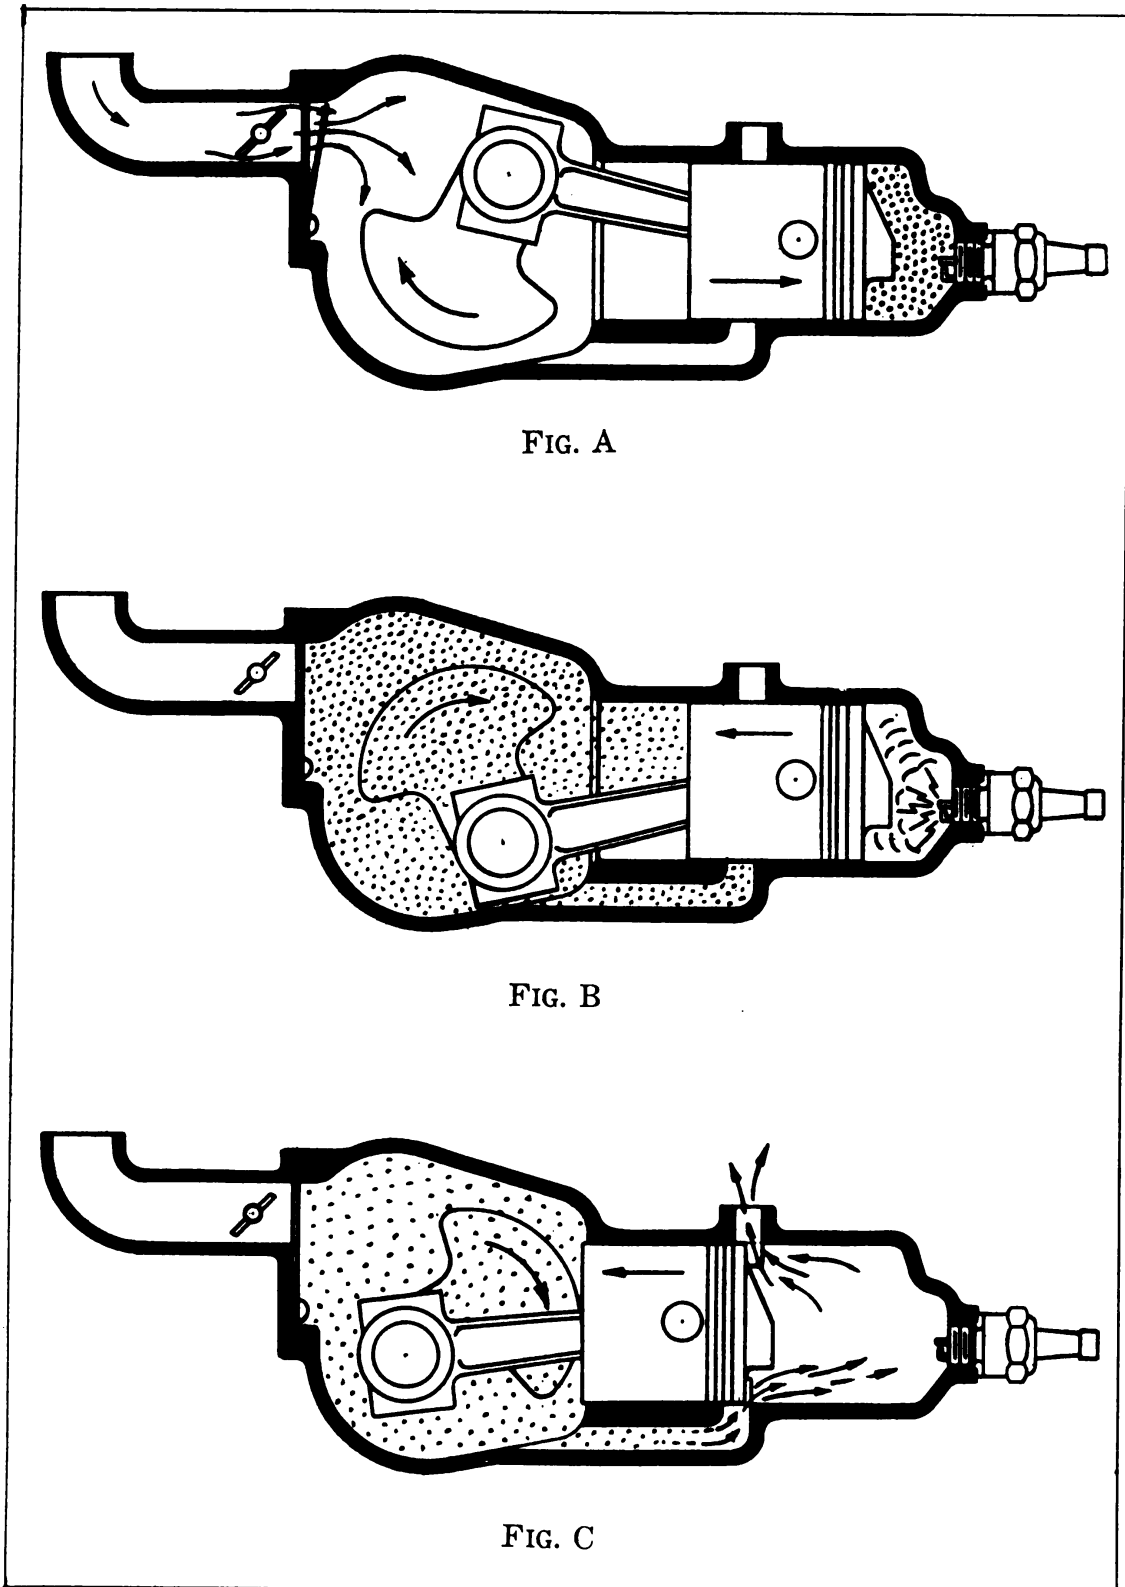

FIG. 8—PRINCIPLE OF 2 CYCLE ENGINE
10. Principle of the Two Cycle Engine.—(See Fig. 8, Page 19.)